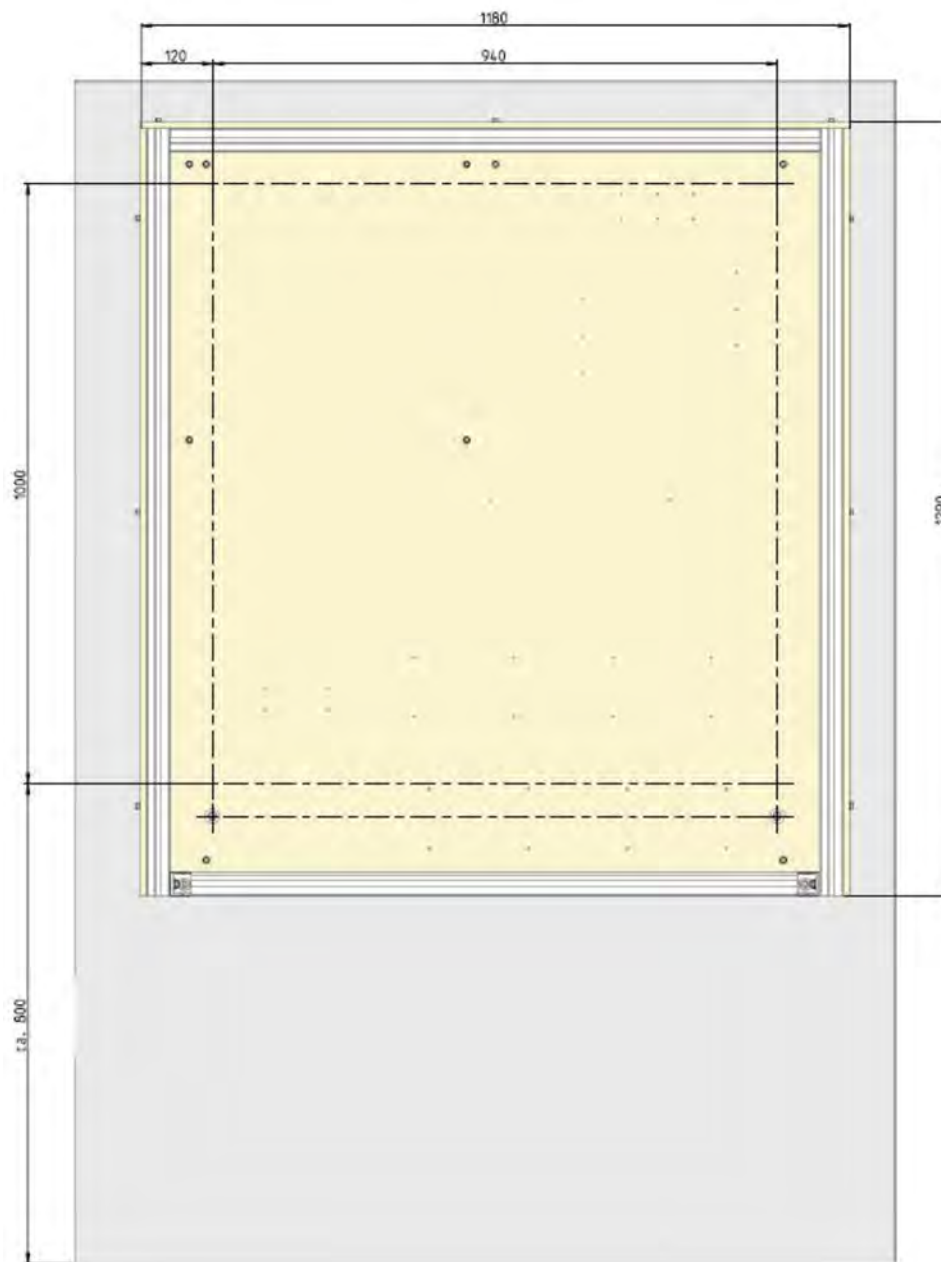

Fig. 13: Assembly diagram
- 2.** ▶ Mark the drill holes on the wall according to diagram ↪ *Chapter 6.3.1 'Assembly diagram' on page 51, Fig. 13.*